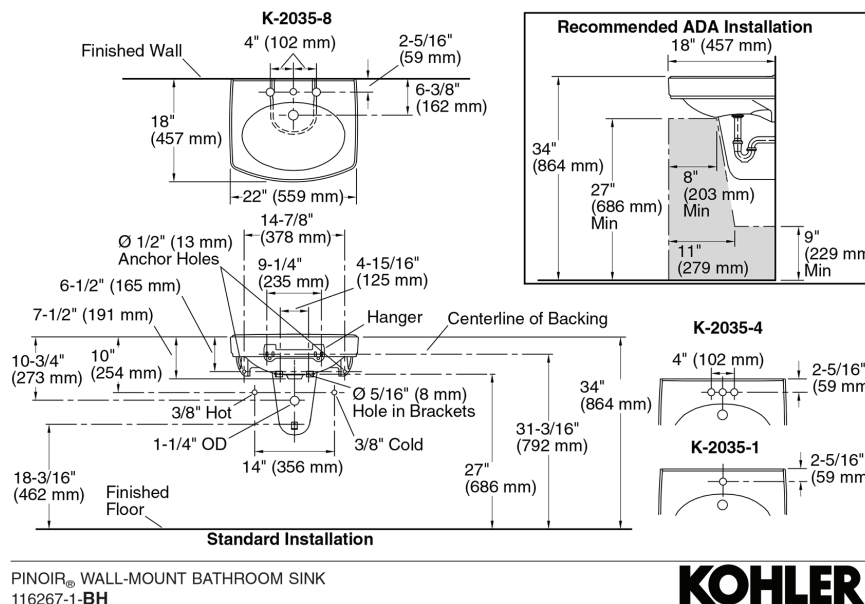

Figure 4 Manufacturer's rough-in specification sheet for a wall-hung basin (Image courtesy of Kohler Co.). Used with permission.
- **Figure 4** Manufacturer's rough-in specification sheet for a wall-hung basin is courtesy of Kohler Co. and is used with permission. All rights reserved.